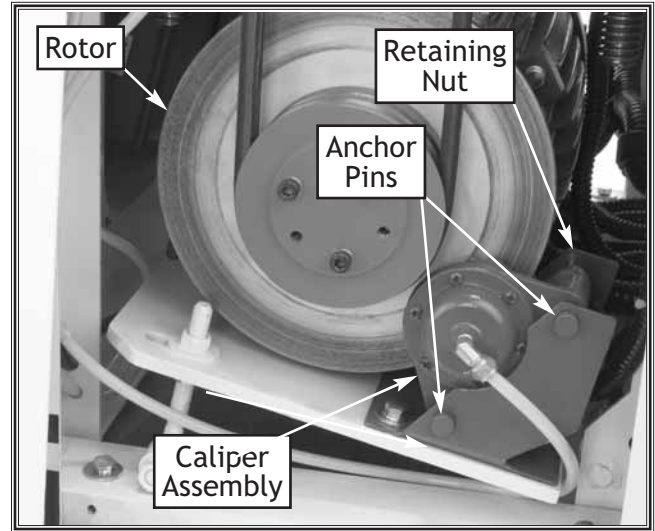

Figure 35. Brake assembly.
Any grease or oil on the emergency brake rotor creates the potential for reduced emergency braking ability. Check the brake rotor (shown in **Figure 35**) regularly to make sure it is clean. If it needs cleaning, only use automotive brake parts cleaner and a dry rag. **DO NOT** use water!
2. Use a 14mm wrench and remove the two caliper anchor pin retaining nuts and washer. See **Figure 35**.
3. Use ViceGrip® or similar pliers to clamp on the anchor pin end and pull the pin from the caliper mount and remove the springs. See **Figure 35**.